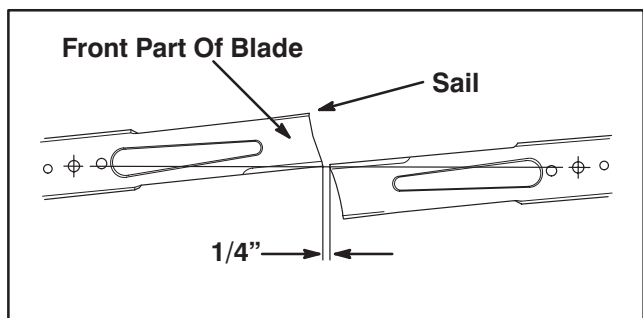

Figure 31
E. Rotate adjacent blades until cutting edge tips are aligned directly across from each other as shown in figure 31.